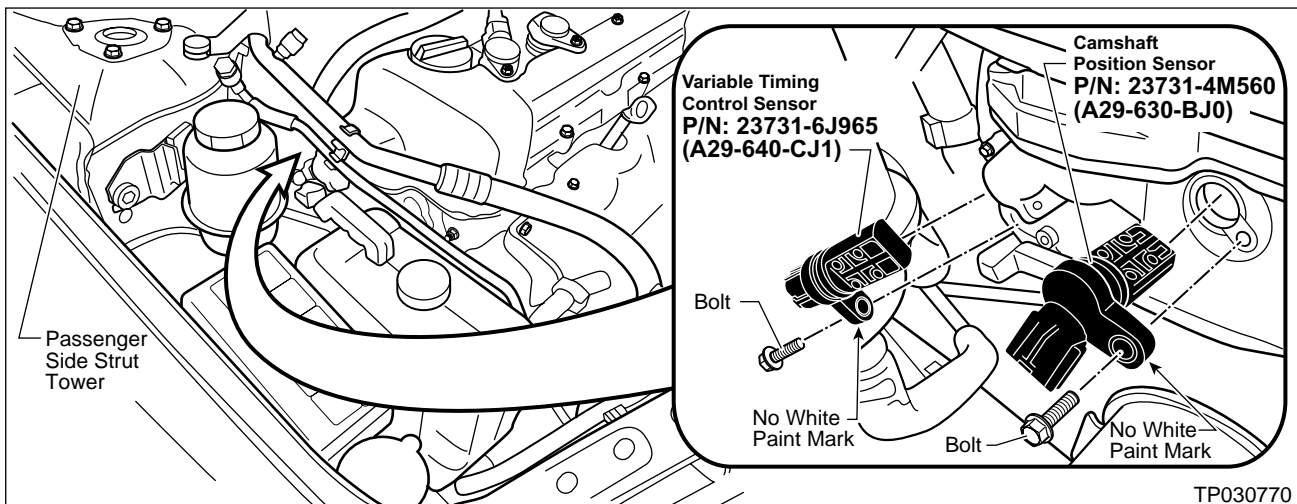

Figure 1
3. Locate the **Camshaft Position Sensor** and the **Variable Timing Control Sensor** (see Figure 1).